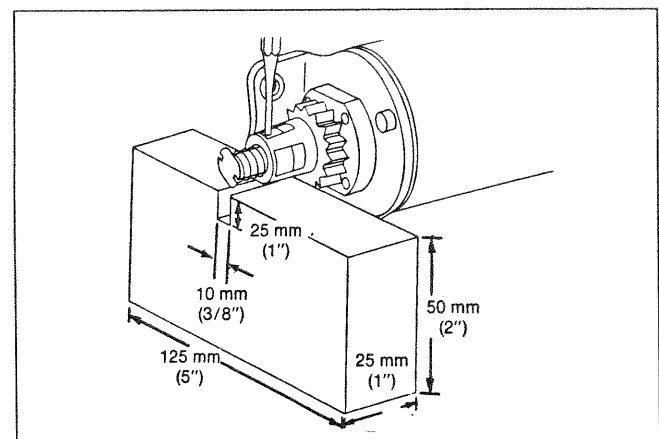
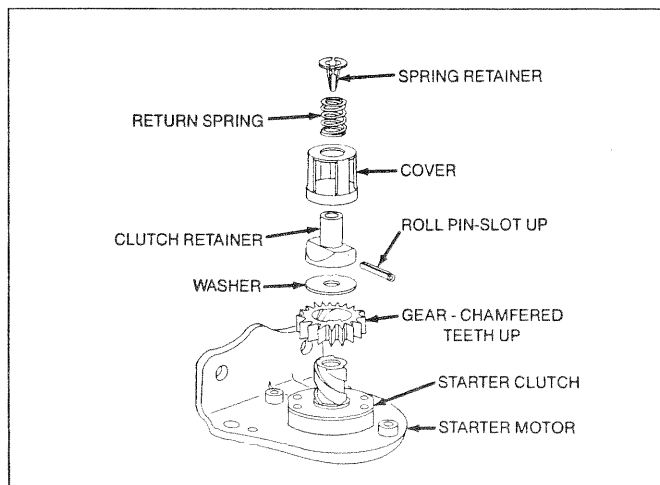

Figure 52. Starter Motor Drive Assembly
Figure 52A. Starter Drive Exploded View
See Figure 52. Rest the starter drive retainer on a support block and use a hammer and a 4mm (5/32") pin punch to drive out the roll pin. Finally, remove the starter drive retainer. The starter drive assembly is illustrated in Figure 52A. Figure 52 shows a support block that can be fabricated locally.
- Press or drive in a NEW roll pin with roll pin slot facing upward as shown in Figure 52. Roll pin must be centered in the armature shaft within 0.8mm (1/32 inch).